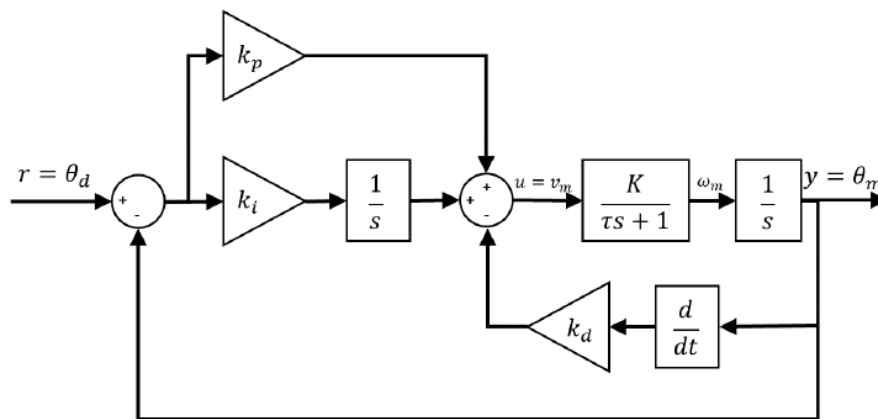
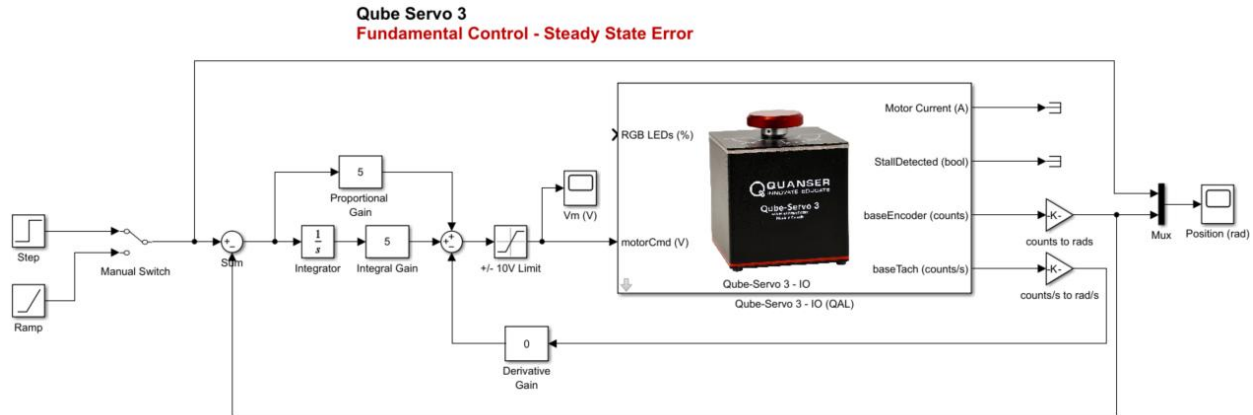

Figure 1: Block diagram of a PID controller
Figure 2: Simulink/QUARC model implementing PID position control.
Note that in the PID controller for this lab, the derivative gain is applied to the derivative of the output (that is, the velocity of the inertia disc) as shown in Figure 1 and this is sometimes called PIV control.
Use the qs3_sse.slx file. This model will implement a PID controller as described in the PID concept review and in Figure 1. Use the gain value found in previous labs to convert the encoder counts to radians and counts/s to rads/s. Connect all the blocks as shown in Figure 2. Use the manual switch to select either a step or ramp input.
4. Open the completed qs3_sse.slx Simulink model, as shown in Figure 2.